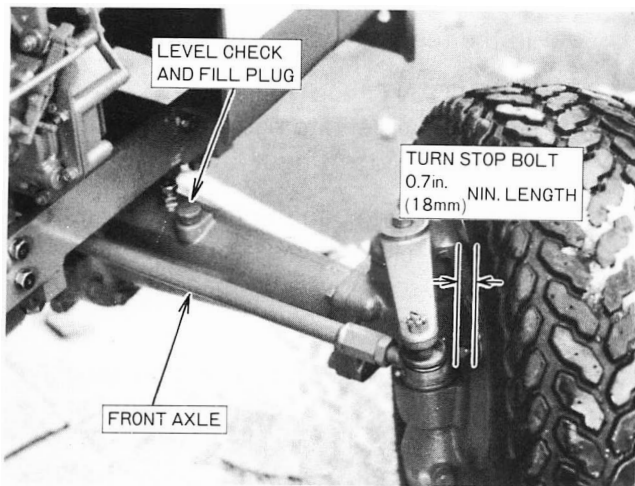

Figure 66 — Front Axle Differential Fill and Level Check Plug
1. With the tractor standing level and the engine off, check the oil level with the dipstick, Figure 66.
3. Remove the filler plug on the top, right side of axle housing, Figure 66, and fill with new oil of the type specified, page 28.